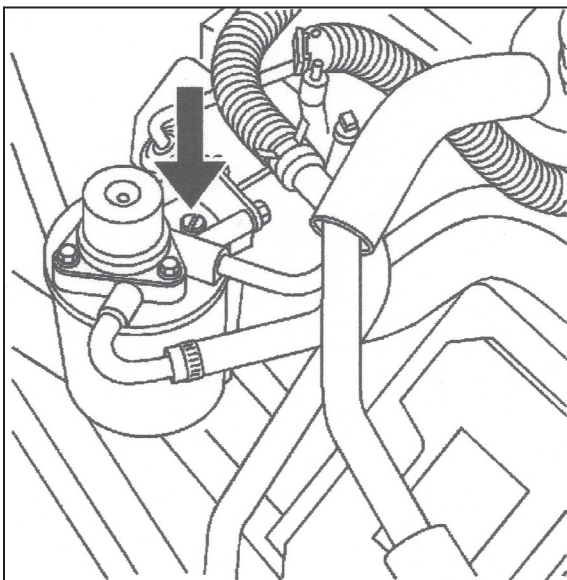

FIG. 1
- 1) Open the vent valve on top of the filter adapter by turning the screw counterclockwise several turns (see Fig. 1).